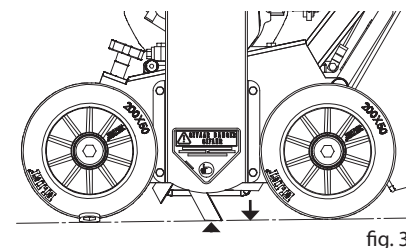

fig. 3
7. Now turn the depth adjustment knob on the wheel in question until the blades touch the ground (figure 3)